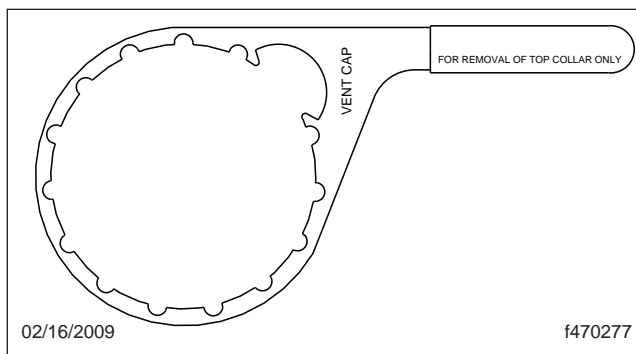

Fig. 24.3, DAVCO Collar Wrench
4. Using a DAVCO collar wrench (**Fig. 24.3**), remove the clear cover and collar.